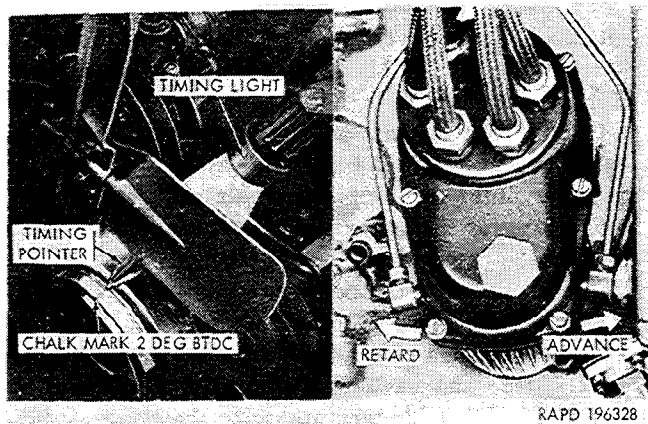

Figure 2-16. Checking ignition timing.
c. *Time Ignition.* With the timing light (fig. 2-16) connected (b. above), make a narrow chalk mark 2 degrees before the DC mark on the fan drive pulley.
- (1) Start the engine and run at idle speed.
- (2) Aim the timing light at the timing pointer (fig. 2-16). Observe the chalk mark on the fan drive pulley with respect to the timing pointer at the instant the timing light flashes. The light should flash the instant the chalk mark is directly under the timing pointer. If the timing light indicates adjustment is necessary, loosen the screw that secures the spark advance arm to the cylinder block, and rotate the distributor clockwise to retard